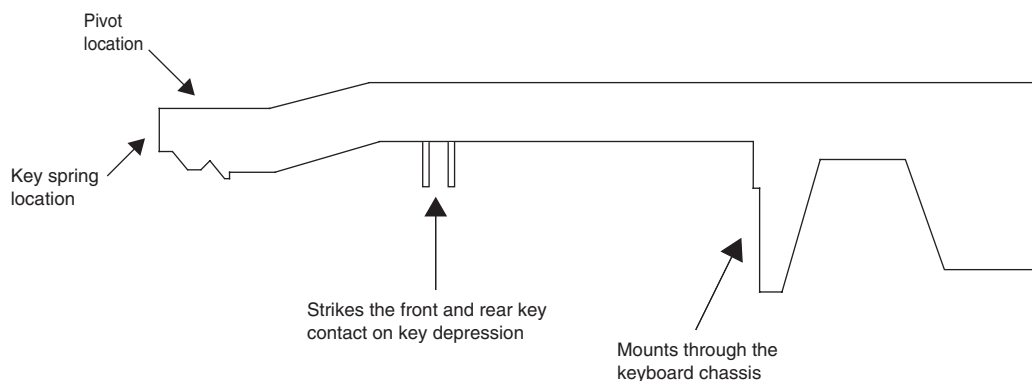

Figure 4-12 Natural/White key, 76-note keyboard
4. Lift the key up slightly, then forward. You should be able to feel when the key is free of the pivot. A portion of the key hooks onto the keyboard chassis (see Figure 4-12). Lifting the back end of the key forward unhooks the key from the keyboard chassis.